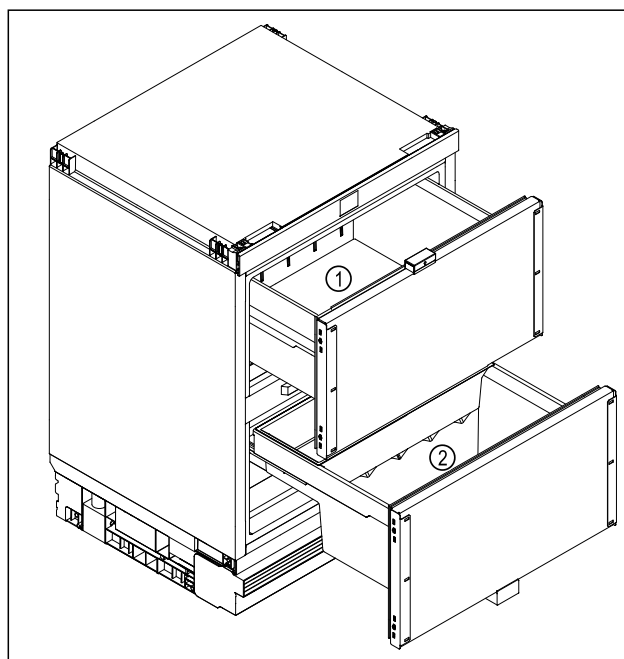

Fig. 7 Example illustration
- ▶ Upper telescopic unit *Fig. 7 (1)*: Store cold-sensitive foods, butter, cheese, tinned food.
- ▶ Lower telescopic unit *Fig. 7 (2)*: Store particularly perishable foods such as ready meals, fish, meat and sausage products fresh dairy products.